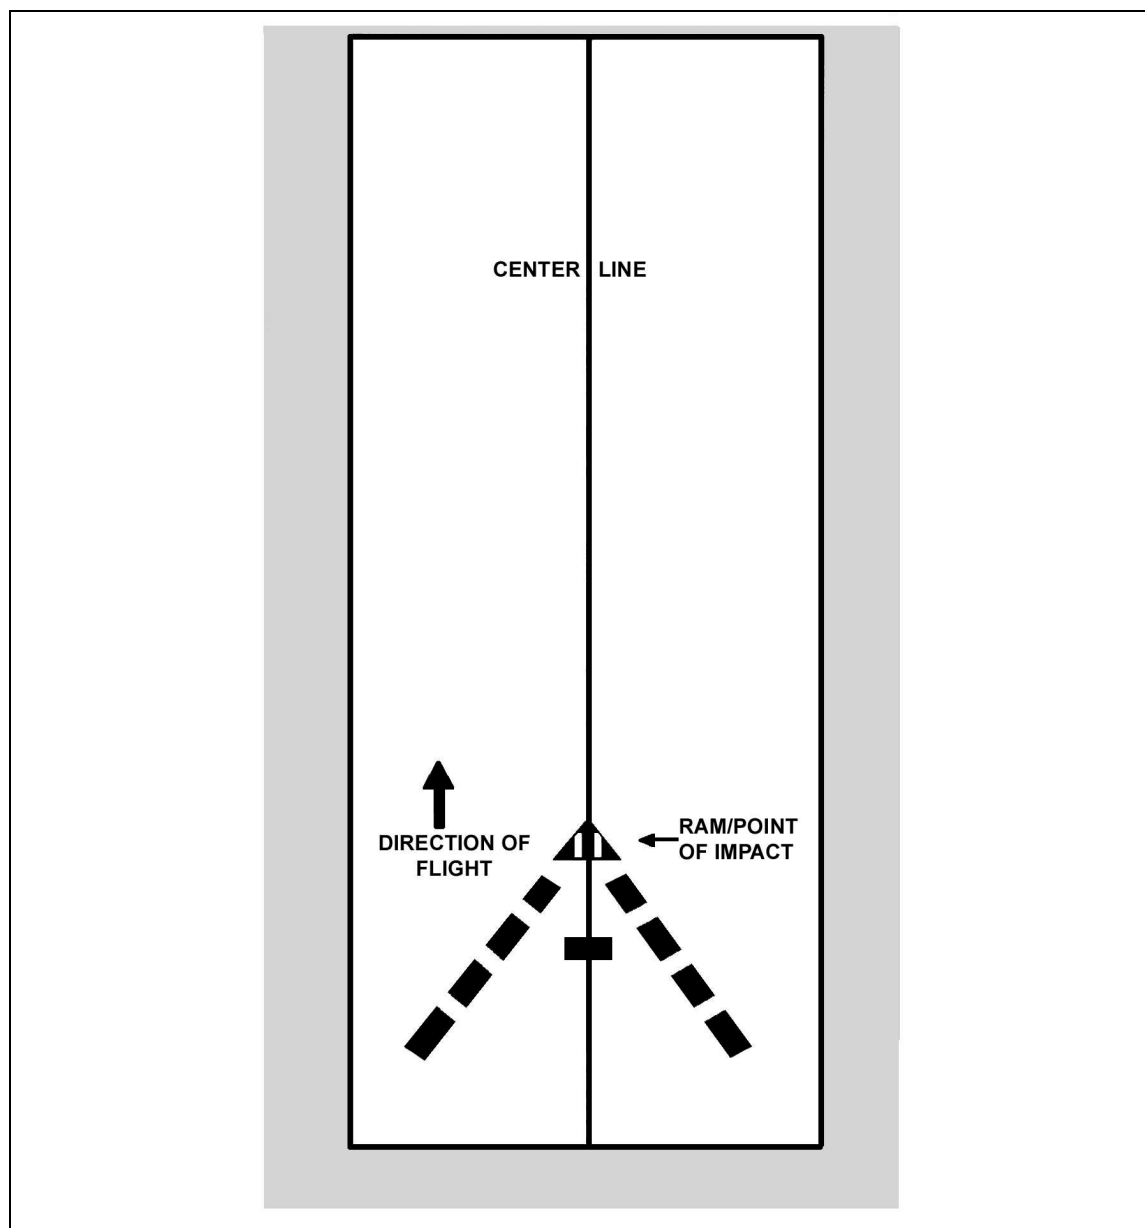
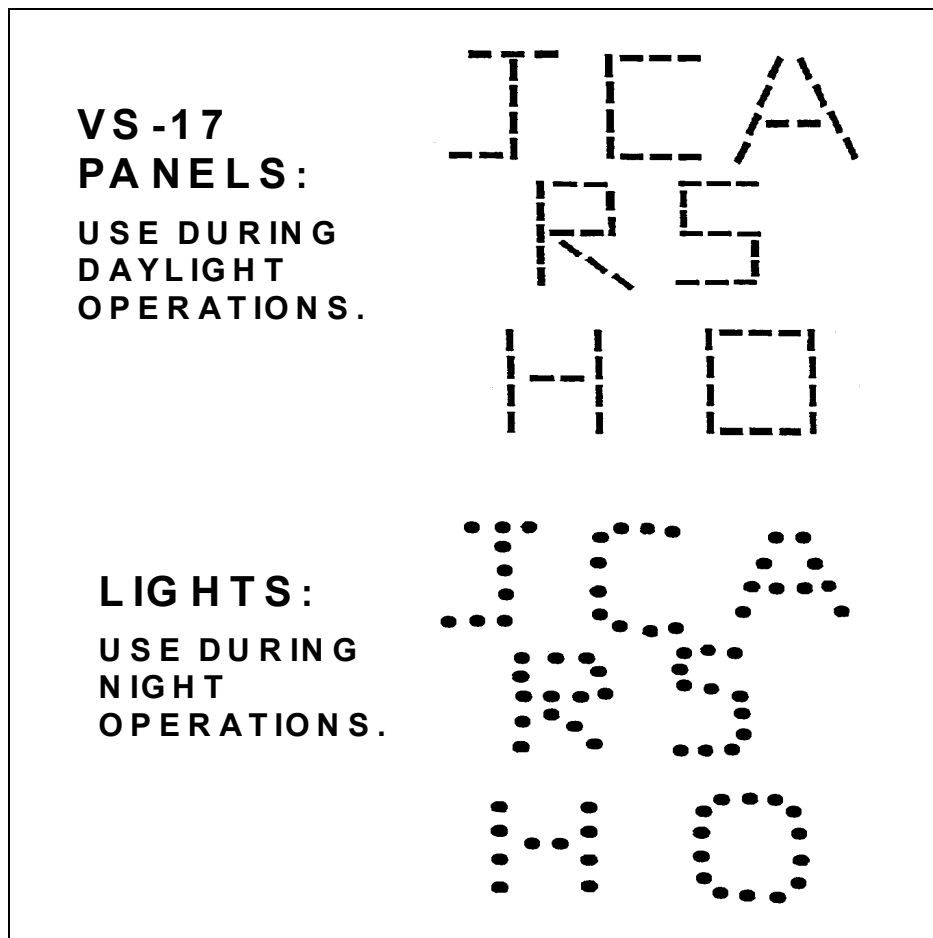

Figure 6-14. Drop zone placement (day).
Figure 6-15. Code letters.
(1) **Day Operations.** For day operations (Figure 6-14, page 6-28), pathfinders mark the point of impact with a RAM (raised-angle marker, Figure 6-5, page 6-15) and an Air Force code letter, which could be a "J," "C," "A," "R," or "S" (Figure 6-15, page 6-29). This applies to rectangular drop zones. They use "H" or "O" for circular drop zones. Each letter must measure at least 35-feet square, and requires at least nine panels flat on the ground.